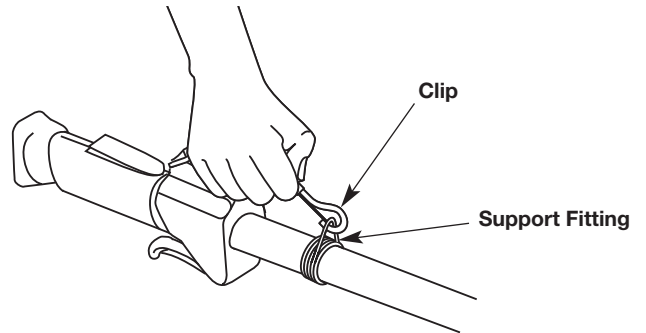

Fig. 5
4. Snap the clip onto the support fitting (Fig. 5).